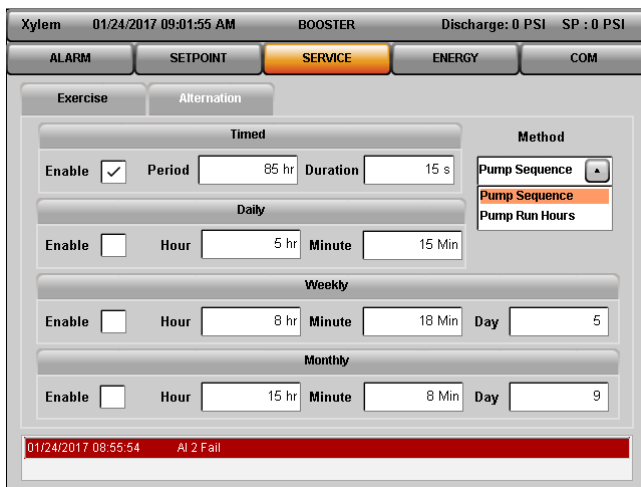

Figure 5.5.15 – Alternation Screen
The four methods for Automatic Alternation are shown in Figure 5.5.15 and the methods are:
- 1 **Timed:** In this method, Alternation can be time based. Check the Enable checkbox in Timed Section on Alternation Screen as shown in Figure 5.5.15 to select this method. User needs to also enter Alternation Period [Hours], time after which Alternation needs to start and Alternation Duration [Seconds], time for which running lead pump remains ON during alternation.
- 2 **Daily:** Check the Enable checkbox in Daily Section on Alternation Screen as shown in Figure 5.5.15 to select this method. In this method, user needs to enter [Hour] and [Minute] of the day when alternation needs to start.
- 3 **Weekly:** Check the Enable checkbox in Weekly Section on Alternation Screen as shown in Figure 5.5.15 to select this method. In this method, user needs to enter [Hour], [Minute] and [Day] of the week when alternation needs to start.
- 4 **Monthly:** Check the Enable checkbox in Monthly Section on Alternation Screen as shown in Figure 5.5.15 to select this method. In this method, user needs to enter [Hour], [Minute] and [Day] of the Month when alternation needs to start.